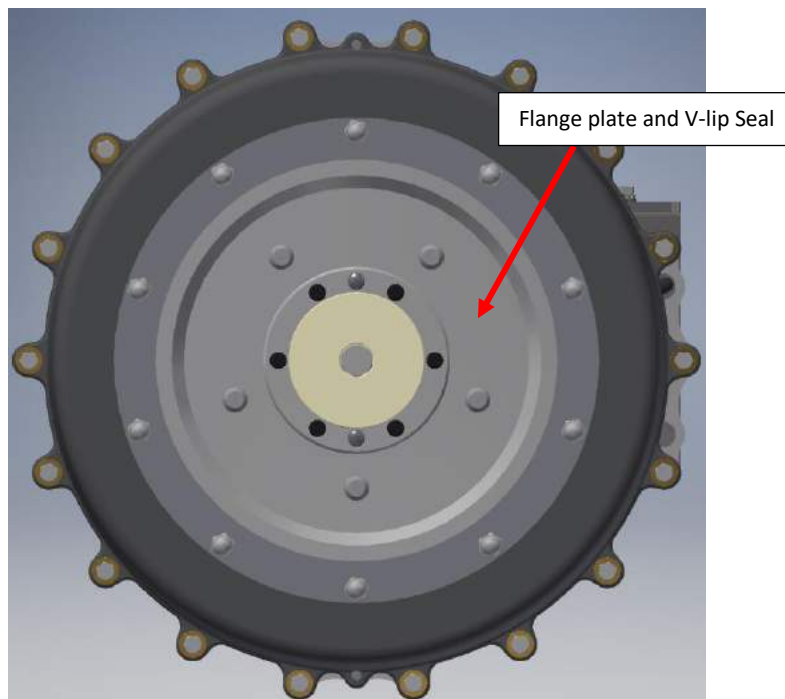

Figure 59
1. Remove and keep the flange plate and V-lip seals from the flange (Figure 59).